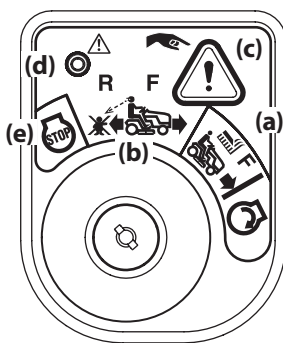

Figure 3-5
2. Turn the key from the NORMAL MOWING (a) position to the REVERSE CAUTION MODE (a) position of the ignition module. See Figure 3-5.
3. Press the REVERSE PUSH BUTTON (c) at the top, right corner of the ignition module. The red indicator light (d) at the top, left corner of the ignition module will be ON while activated. See Figure 3-5.